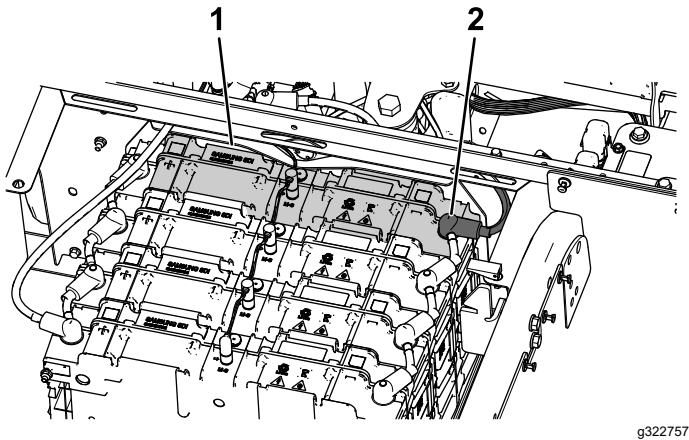

Figure 41
1. Remove the negative (–) battery terminal boot from the front battery pack (Figure 41).